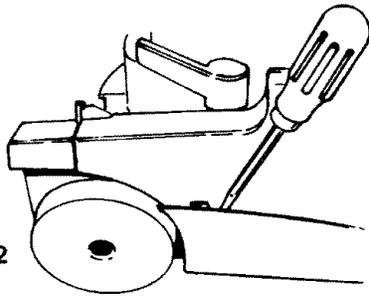

Fig. 12
2. Carefully pry inward on rear panels of hood to release snaps. (Fig. 12)